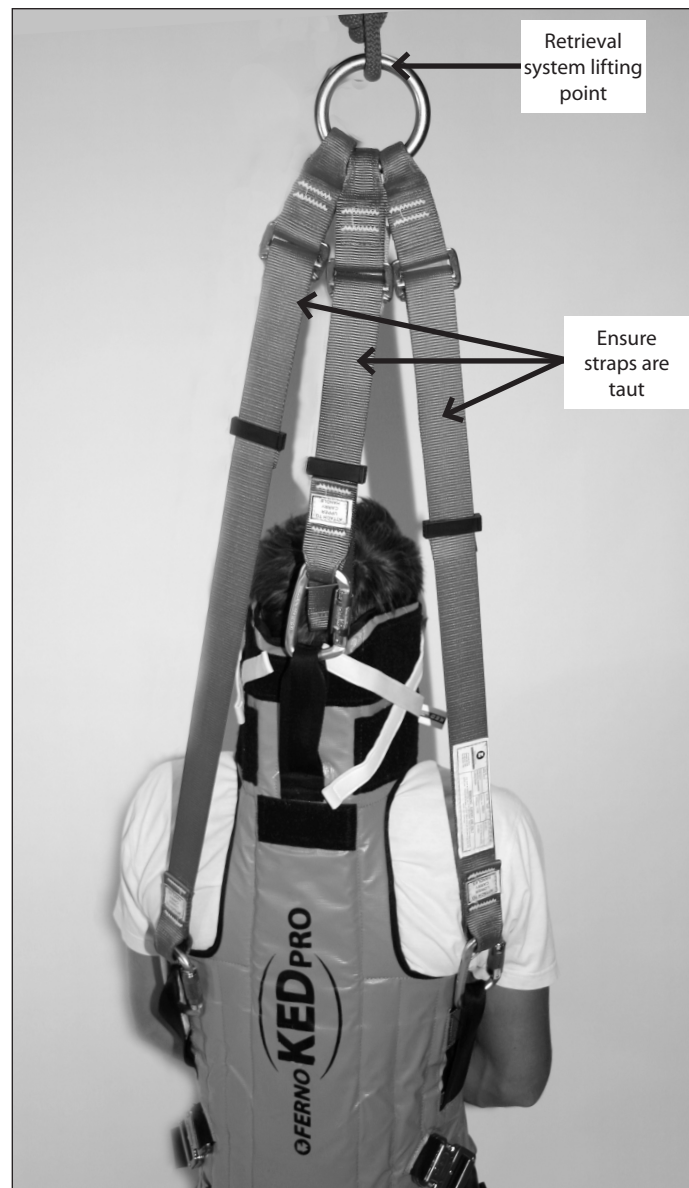

Figure 12
3. Ensure all lifting straps are securely fastened and the load is equally shared between all three straps. Each lifting strap must be taut. It is very important that there is no slack or looseness in the straps (Figure 12). Refer to Section 4-2 Shortening the Strap